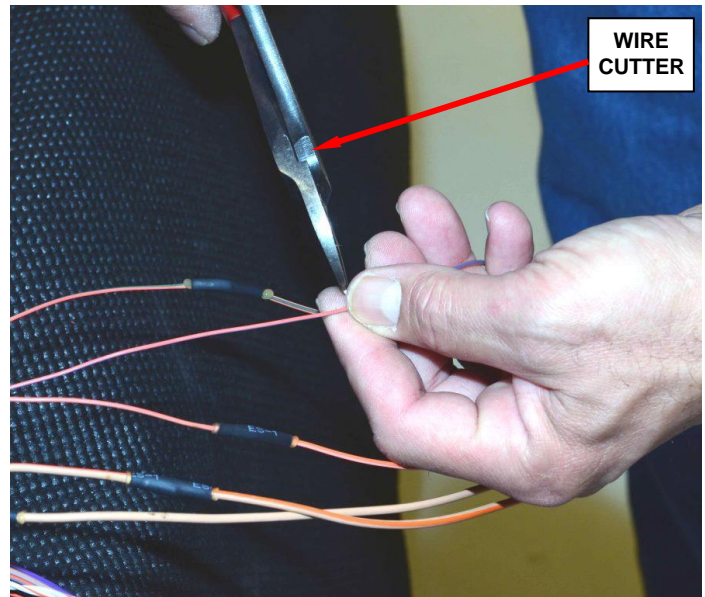

Figure 9 – Cut Wire (Staggering Cuts)
- a. Cut the old wire on the electrical connector (Figure 9).